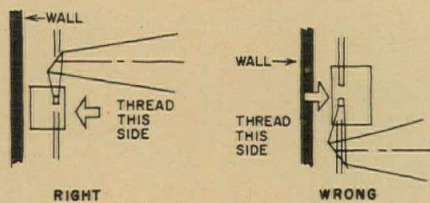

Figure 24: Threading movie projector from right (lens) side
5. Movie projectors are threaded and operated from the side nearest their lens. Figure 24 explains right and wrong ways to mount 16 mm projectors.